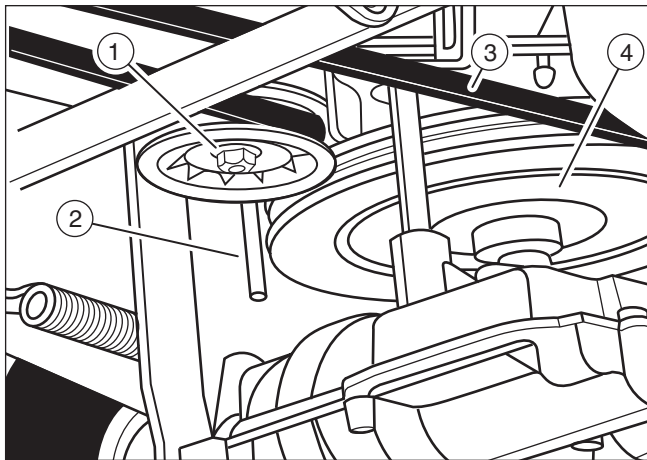
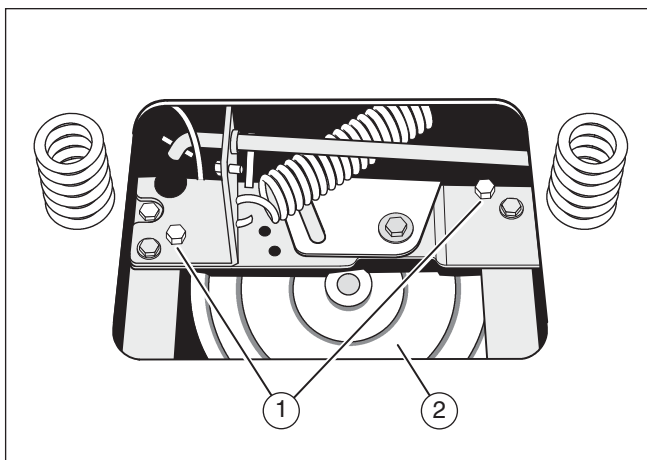

Figure 16
Figure 17
3. Remove the idler pulley (1) (see **Figure 16**).
4. To access the belt guides (1), remove the battery and battery tray (see **Figure 17**). See "Remove the Battery."
5. Loosen the belt guides (1) at the drive pulley (2).
6. Remove the motion drive belt (3) from the drive pulley (4) (see **Figure 16**).